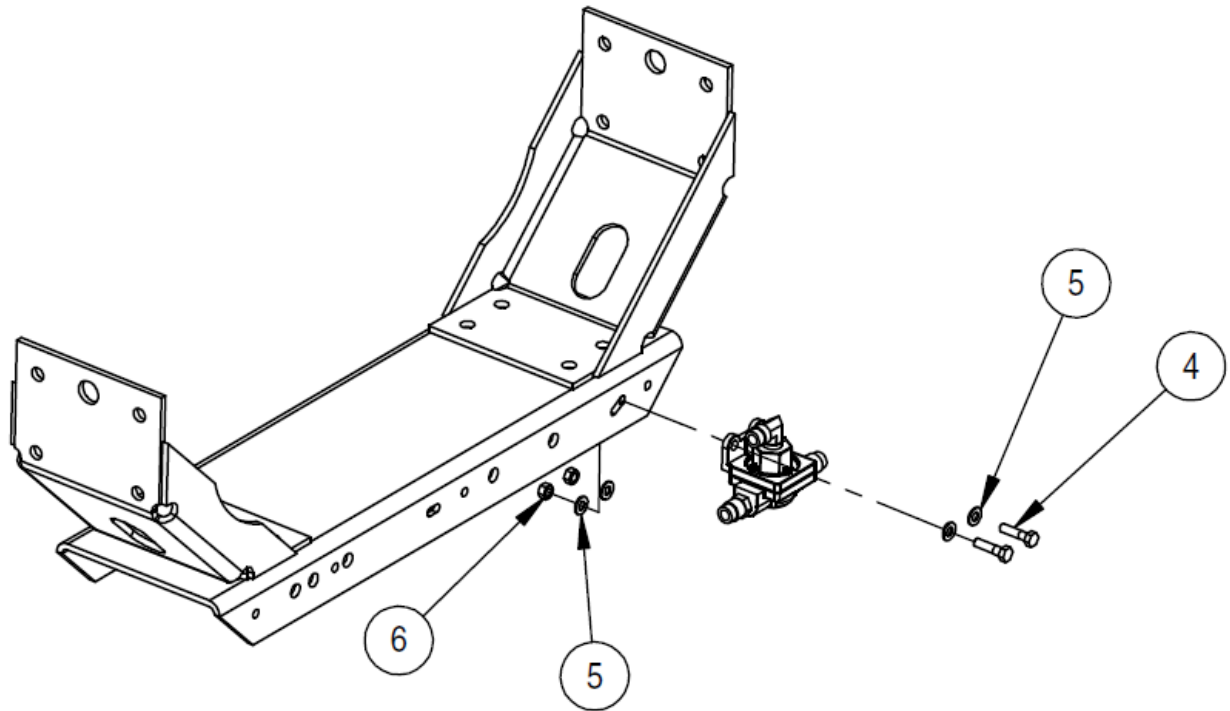

Figure 4.1
8. Install new quick release valve to cross member in same location using bolt part number 05180125H5Z (*Item 4*), washer part number 05FWSAEZ (*Item 5*) and nut part number 0518LNZ (*Item 6*). See *Figure 4.1*.